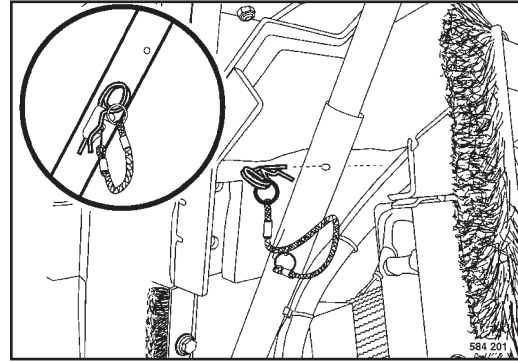

Fig. 62
- Pull the spring pin (Fig. 62) out of the bracket.